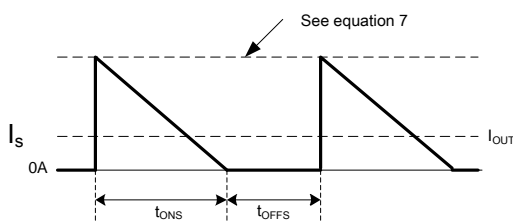

Figure 4. Secondary Current Waveform
The AP3983E is designed to work in constant current (CC) mode. Figure 4 shows the secondary current waveforms.